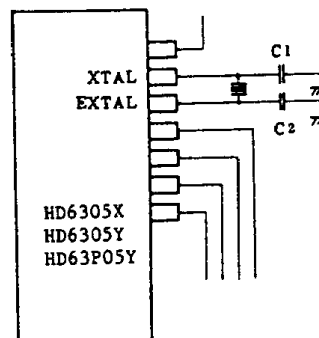

Figure 34 Design of Oscillation Circuit Board
- (1) Locate crystal, ceramic resonator, and load capacity C1 and C2 as near the LSI as possible. (Induction of noise from outside to the XTAL and EXTAL pins may cause trouble in oscillation.)
- (2) Wire the signal lines to the neighbouring XTAL and EXTAL pins as far apart as possible.
- (3) Board design of situating signal lines or power supply lines near the oscillator circuit as shown in Fig. 35, should not be used because of trouble in oscillation by induction. The resistor between the XTAL and EXTAL, and pins close to them should be 10M Ω or more. The circuit in Fig. 34 is an example of good board design.